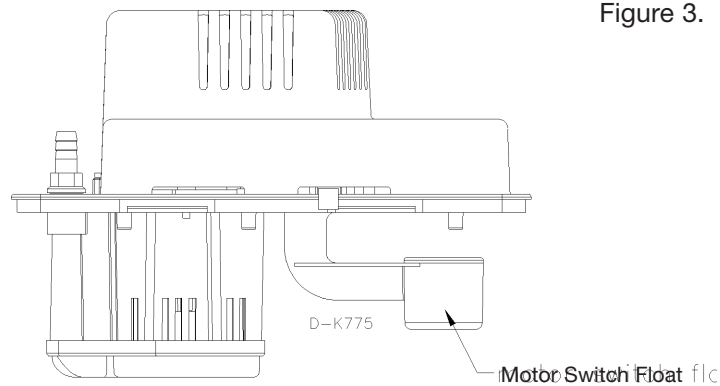

Figure 3.
3. It is recommended that the pump be checked every six months for proper operation. Most important is to check for debris blocking the pump discharge adapter/check valve. Check for proper free movement of pump float (Figure 3) and switch and check for free, unrestricted movement of motor and fan.
3. Test motor switch by raising motor switch float with finger(Figure 3). Motor should turn on just before float contacts underneath side of cover.